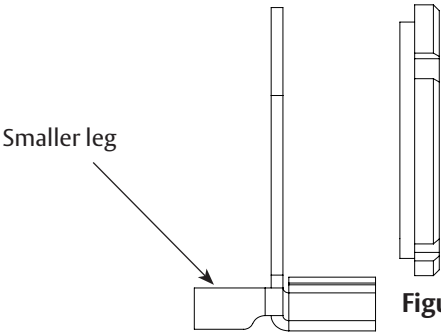

Figure 5-3C
- c. Tighten cylinder nut into escutcheon, making sure stepped side of nut goes inside key override ring as shown in Figure 5-3C.